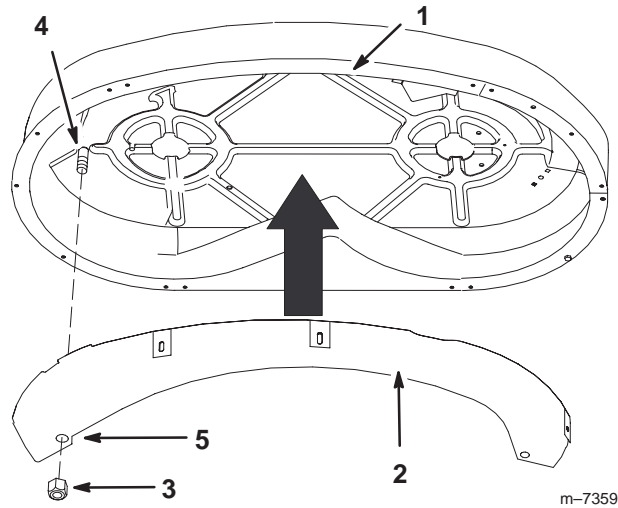

Figure 2
3. Install the upper baffle, tabs pointed down, into the deck as shown in Figure 2. Make sure the threads of the discharge chute rod come through the baffle hole.
4. Install the locknut removed previously over the threads of the discharge chute rod to secure the baffle to the deck (Fig. 2).
5. Press the baffle flush to the underside of the deck to make sure it is properly installed and the slotted holes in the baffle tabs line up with the holes in the side of the deck (Fig. 2).